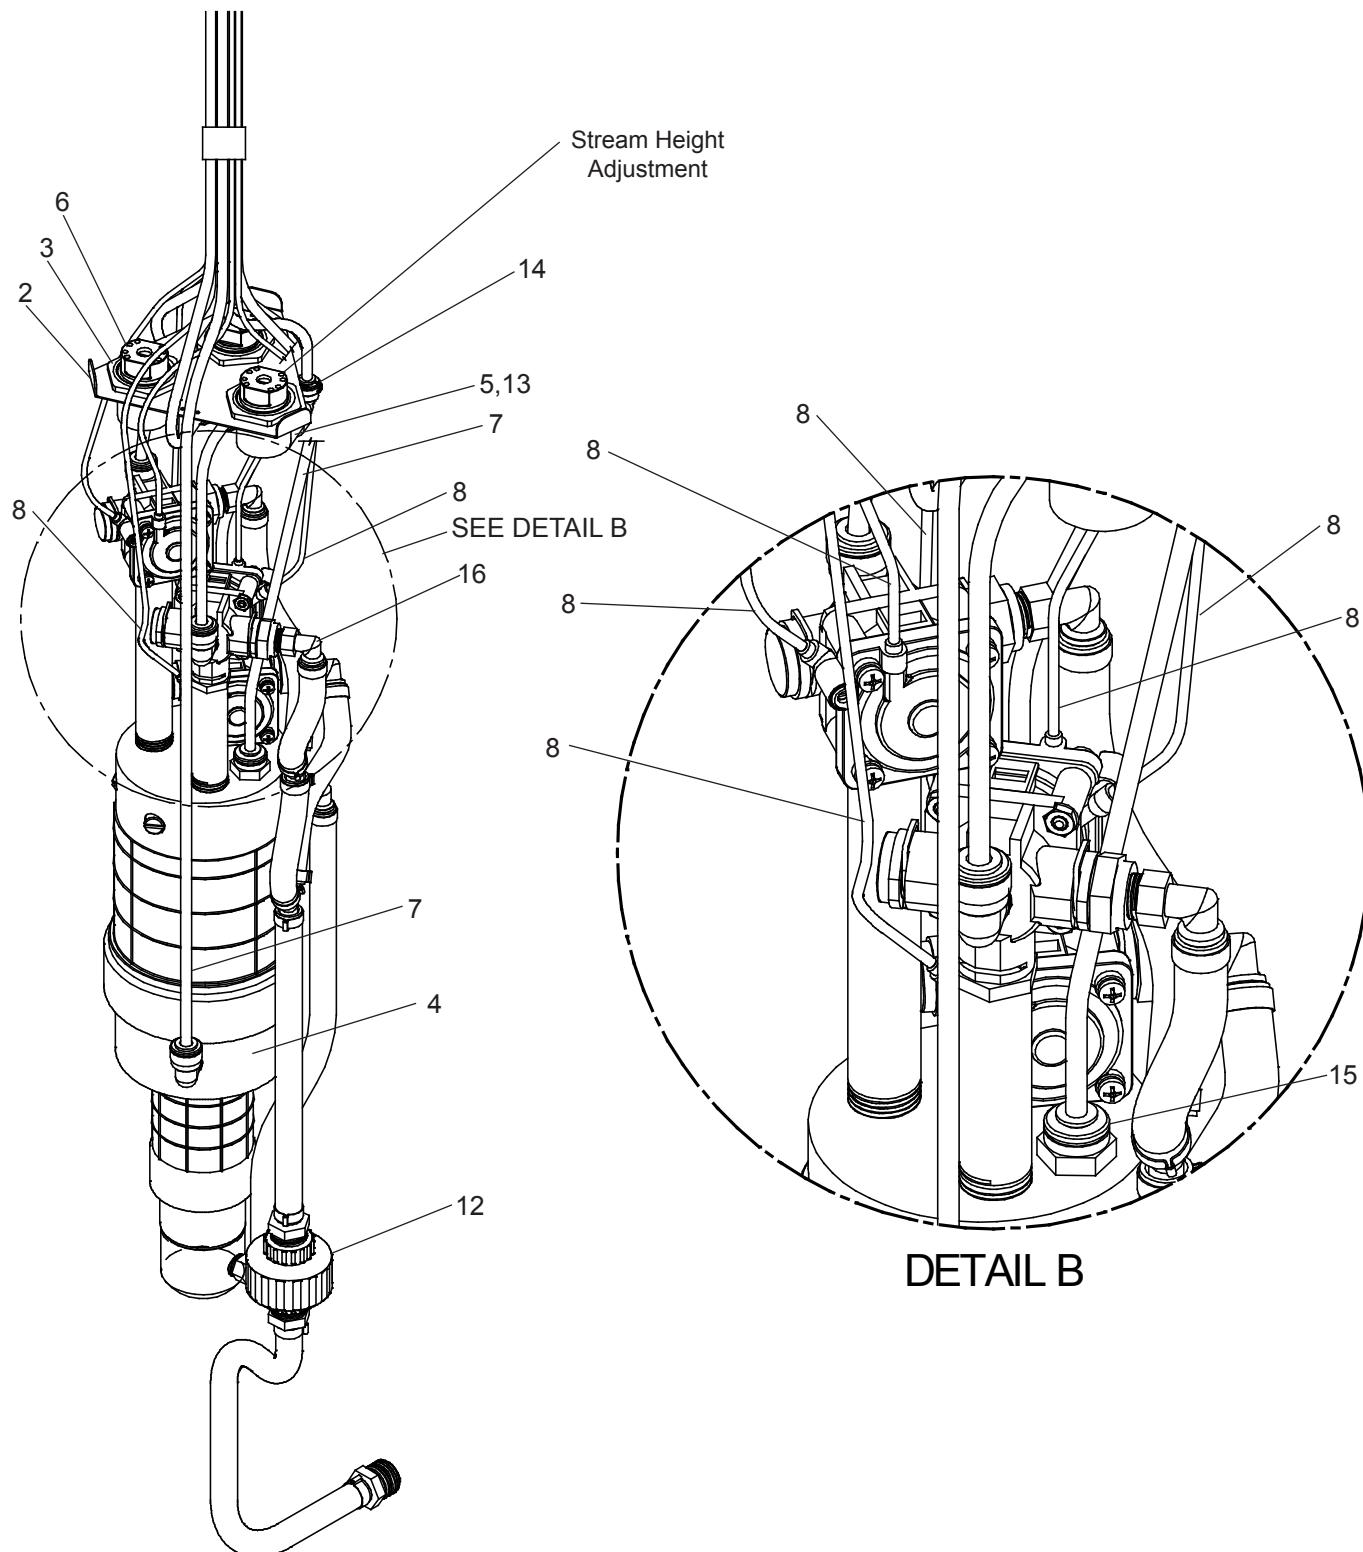

FIG. 5
- Remove the valve assembly from the PVC column by carefully pulling up on the strap and connecting tubing at the same time. Check stream height from the bubbler. Stream height is factory set at 35 PSI. If supply pressure varies greatly from this, adjust the screw on the regulator (Item 13, Fig. 5, Page 7). Clockwise adjustment will raise stream and counter-clockwise adjustment will lower stream. For best adjustment stream height should be approximately 1-1/2" (38mm) above the bubbler guard. Replace the valve into the PVC column. Make sure the supply hose coils into the bottom of the PVC column without any kinks and double check that the valve is positioned fully at the bottom of the PVC column.